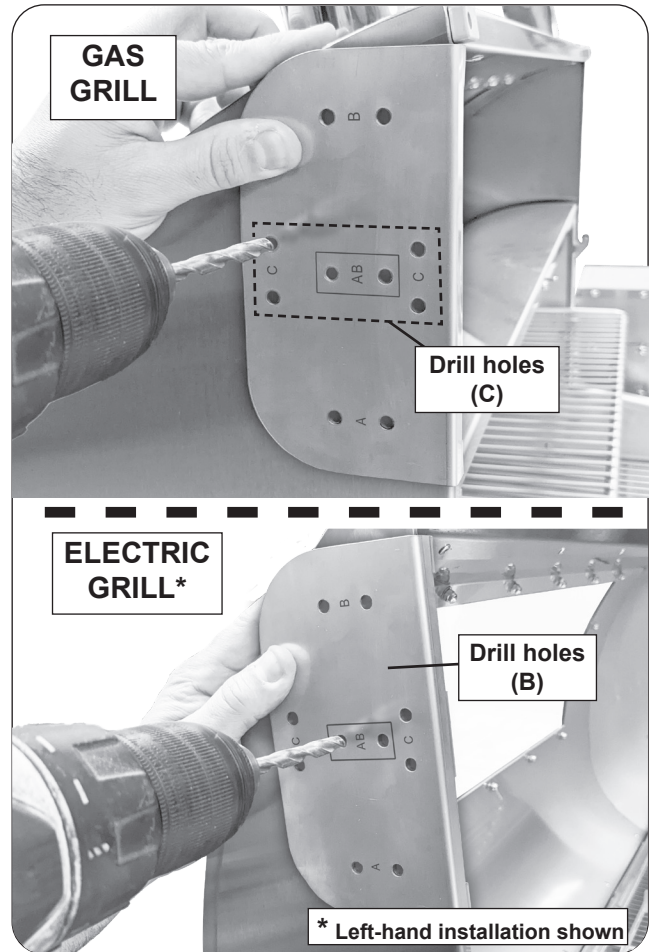

Fig. 2-1 Drill holes (on hood)
4. Using the provided drill bit, drill the four (4) holes through the oven hood side wall as needed for your unit. Reference the bullets below and Fig. 2-1.